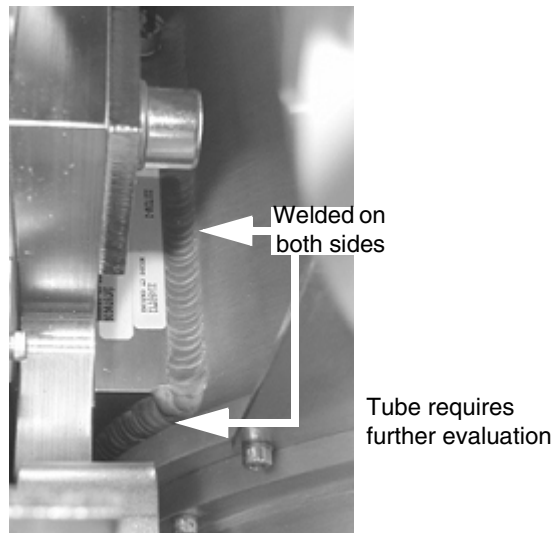

Figure 12 - Weld seen on both sides
- b.) If the welds are seen on both sides, as shown in Figure 12, then your tube casing is a “4-weld suspect tube”: